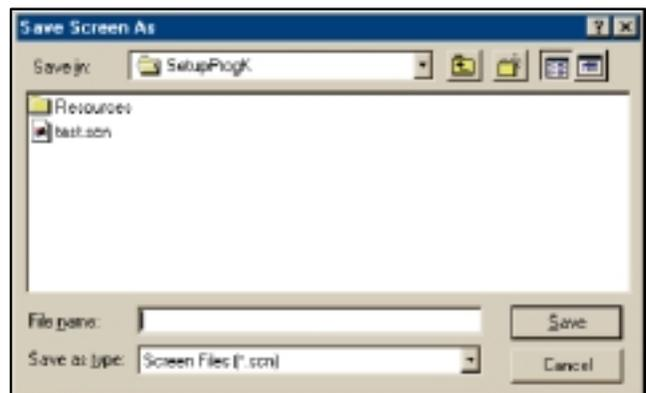

Figure 2-12 Save Screen
2. A dialogue box appears. See Figure 2-12. Type in a filename for the screen file. Choose a unique name that identifies the file for future reference. Screen files use the extension *.scn*. Do not type the filename extension; the program appends the extension to the filename automatically.